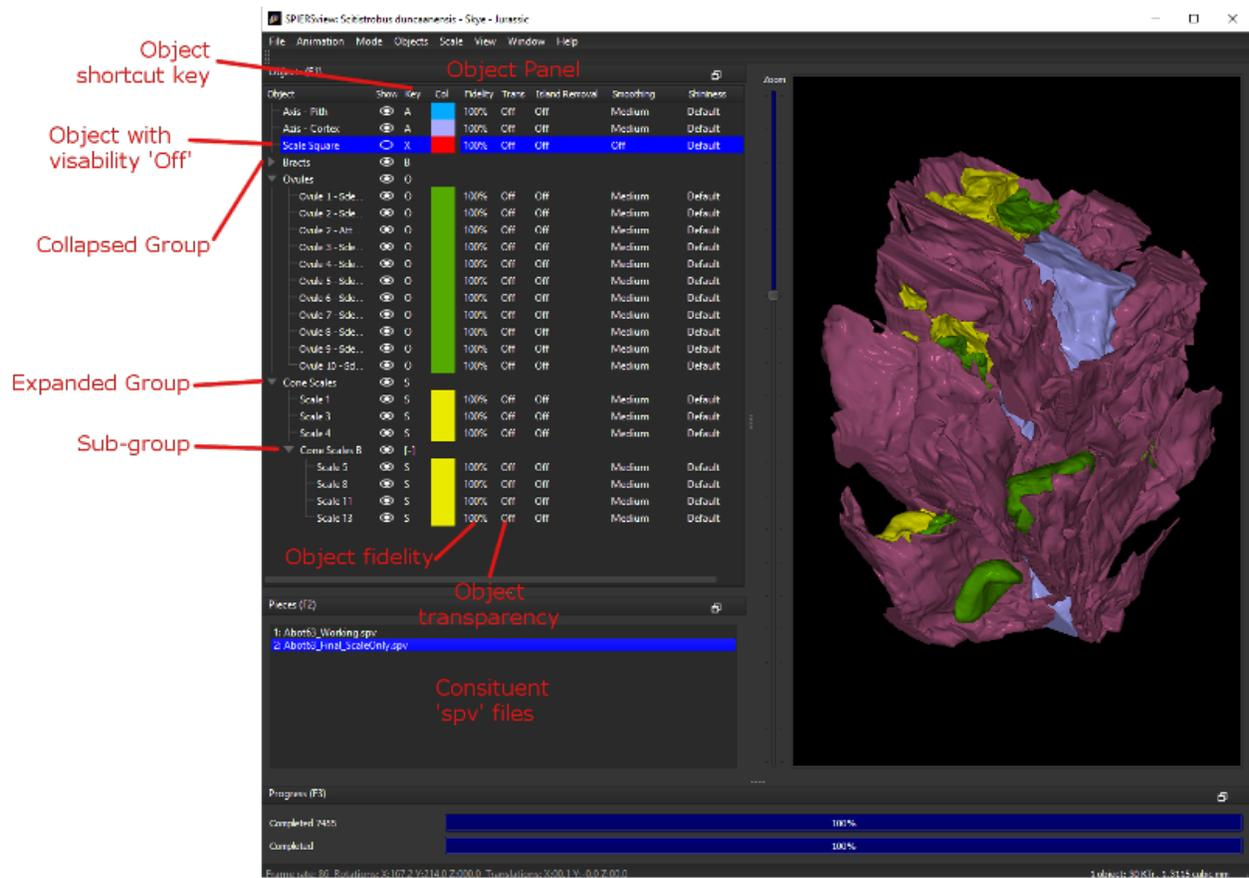

Fig. 2: Figure 2. Default anatomy of a SPIERSview object panel
Objects can be combined into groups; groups can also exist as subgroups within other groups (see Fig. 2), enabling the user to build up a hierarchy of objects to describe an anatomy. For instance, an arthropod model might include a group called ‘appendages’ – this in turn might include a subgroup called ‘cephalic’ appendages, which might in turn include a ‘mandibles’ group, consisting of a left and right mandible. Object grouping not only provides a convenient way to explain relationships, but also allows visibility to be controlled for sets of objects – in the above example for instance a key could be assigned to the appendages group, allowing the entire appendage set to be quickly hidden or shown.
Groups are indicated in the panel in a standard way (Fig. 2); they can be expanded or collapsed to show their contents. Groups only have two properties; their shortcut key, and their visibility.
Turning visibility off for a group does not alter the individual visibility settings of contained objects (or groups), but overrides them so they are all hidden. In Figure 2 for instance, all objects in the ‘Trunk Apps’ group are currently invisible (whatever their individual visibility setting), as this group is set to invisible. Once visibility is turned on again for the parent group, the individual visibility settings of its contained objects (or groups) are used again.
Objects listed in the object panel have seven properties detailed in columns to the right of the name (see Fig. 2; not all columns are visible at default panel size). The name (1st column), visibility (2nd column), shortcut key (3rd column) and display colour (4th column) are all modified simply by double-clicking. Note that display colour has no effect for VAXML/PLY datasets where the imported object has surface colour. The properties in the right hand five columns (Fidelity, Transparency, Island Reduction, Smoothing and Shininess) are set using commands on the object menu. Of these, only transparency and shininess are available in *Finalised/VAXML* mode.
datasets (e.g. part and counterpart of a fossil). Each ‘.spv’ file incorporated is known as a *piece*. The *Pieces panel* (see Fig. 2) shows all the pieces making up the currently open file – if no extra pieces have been imported, there will be only one such piece.